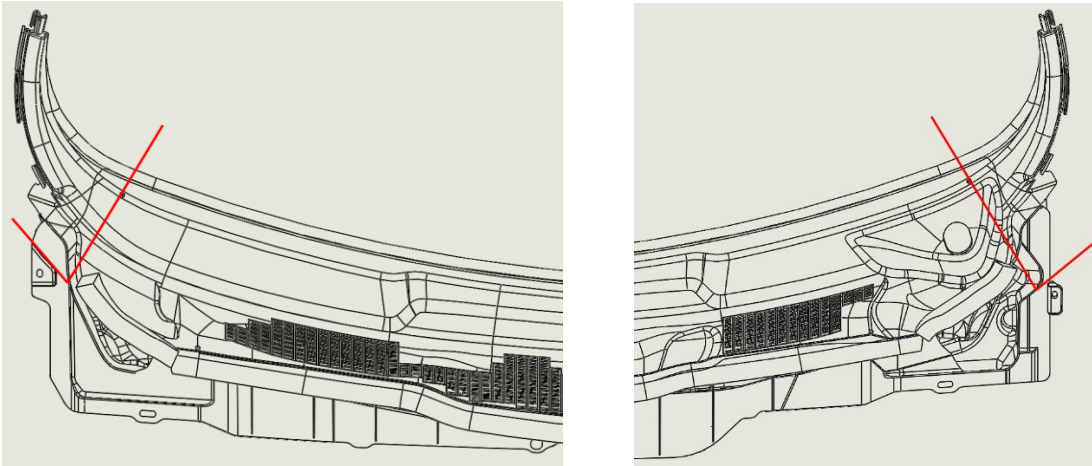

Fig 6
- b. Trim off the areas shown above in **Fig 6 & 7** on both sides of the cowl.